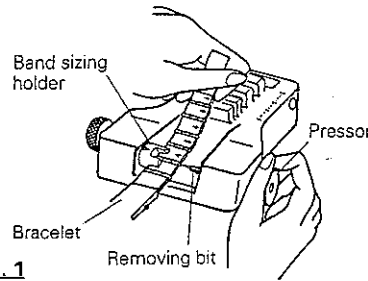

FIG. 1
Install the band sizing holder onto one side of the pressor and a removing bit on the other side of the pressor side. (FIG. 1)
Place the band on the S-926 (FIG. 1) and turn the Pressor clockwise slowly so that the bit is pushing the link pin into the band.
1. Install the band holder onto one side of the pressor and a removing bit on to the other side of the pressor side. (Fig 1)